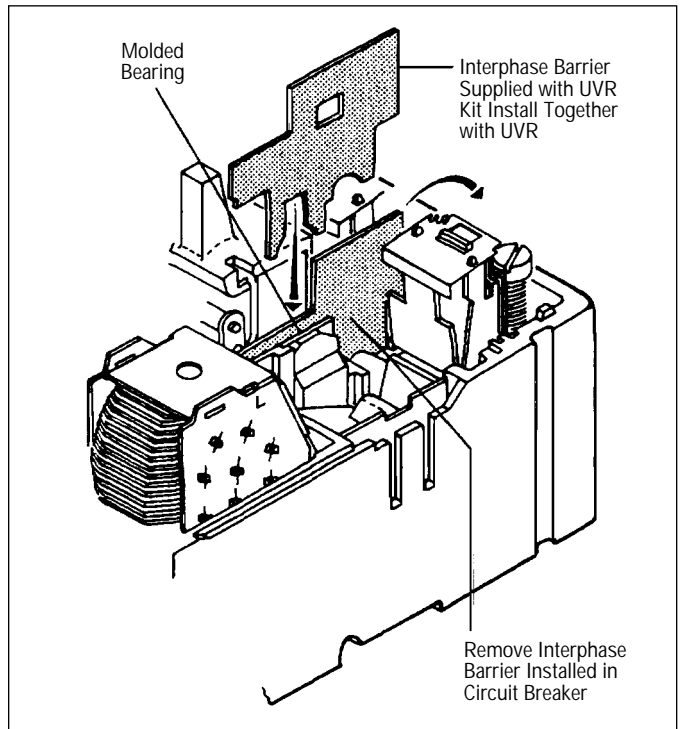

Figure 2-4 Position of Interphase Barrier and Molded Bearing
- a. Remove interphase barrier between accessory mounting cavity and operating mechanism as shown in Figure 2-4.